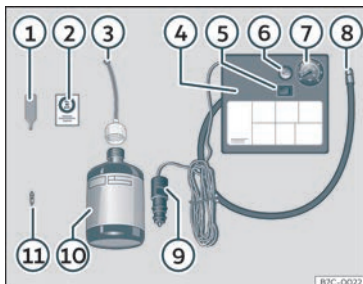

Fig. 31 Standard representation: anti-puncture kit contents.
The anti-puncture kit is located underneath the floor covering in the luggage compartment. It includes the following components »» Fig. 31:
- Unscrew the tyre valve cap and insert. Use the »» Fig. 31 ① tool to remove the insert. Place it on a clean surface.
- Shake the tyre sealant bottle vigorously »» Fig. 31 ⑩.
- Screw the inflator tube »» Fig. 31 ③ into the sealant bottle. The bottle's seal will break automatically.
- Remove the lid from the filling tube »» Fig. 31 ③ and screw the open end of the tube into the tyre valve.
- Place the insert back into the tyre valve using the tool »» Fig. 31 ①.
- Screw the compressor tyre inflator tube »» Fig. 31 ⑧ into the tyre valve.
- Check that the air bleed screw is closed »» Fig. 31 ⑥.
- Insert the connector »» Fig. 31 ⑨ into the vehicle's 12-volt socket »» page 142.
- Turn the air compressor on with the ON/OFF switch »» Fig. 31 ⑤.
- Attach the sticker >>> **Fig. 31** ② to the instrument cluster, within the driver's visual field.
Screw the inflator tube >>> **Fig. 31** ⑤ again and check the pressure on the gauge ⑥.